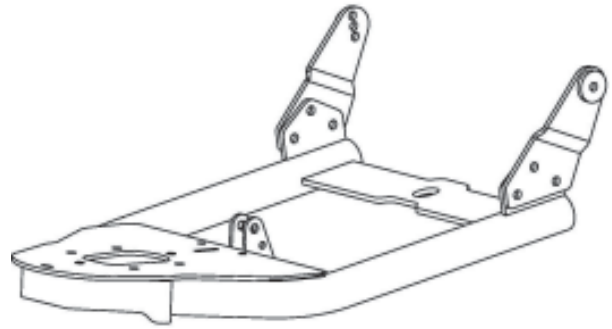

Figure 8
11. Finally install the plow mounting tabs to your Plow Tube Assembly, see Figure 8. Place them on the outside of the rail mounting point, with the jog heading away from the center (The widest configuration possible). Install these loosely on the plow with the fasteners provided with the plow. Tighten the fasteners after the plow is assembled and installed in the mount according to the plow assembly instructions.